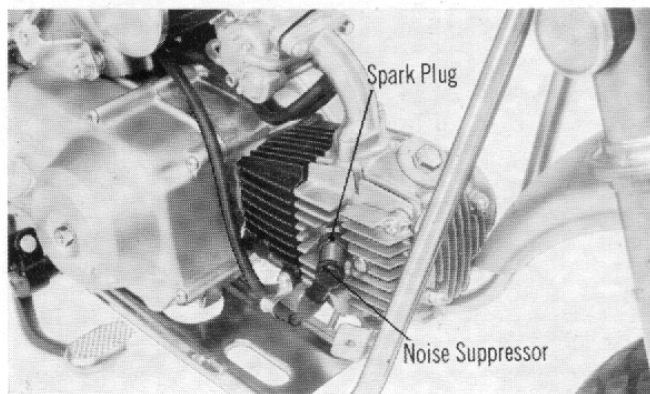

Fig. 102
- (1) The most simple method is to remove the spark plug and perform the starting procedure with the spark plug grounded to the engine. When a strong spark of bluish white color is produced, it is an indication of satisfactory ignition coil and flywheel A. C. generator (Fig. 102).